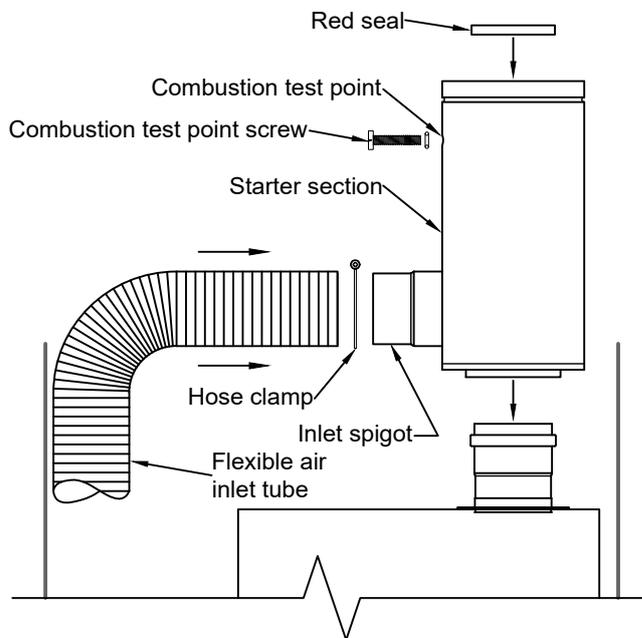

Figure 4-2: Fitting starter section
- Remove combustion test point screw. Refer to Figure 4-2 for guidance.
7. Connect the flexible air inlet tube to the inlet spigot and secure with the wire hose clamp supplied with the boiler. Refer to Figure 4-2 for guidance.